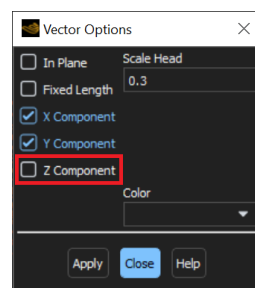

Figure 64: Fluent vector visualization options.
- click the *Vector Options* button: in the window that will pop up, deselect the *Z Component*, click *Apply* and then *Close*, as illustrated in figure 64.